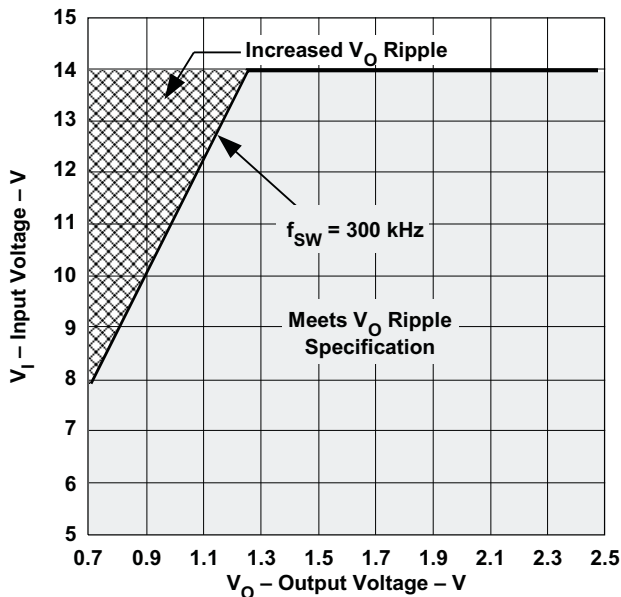
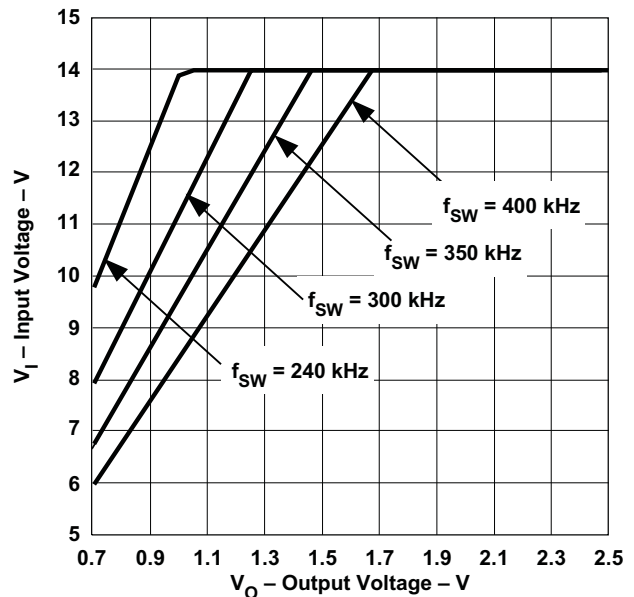

Figure 25.  $V_O$  Ripple Regions at 300 kHz
Figure 26.  $V_O$  Ripple Regions
Synchronizing to a higher frequency and operating with a low duty cycle may impact output voltage ripple. When operating at 300 kHz, Figure 25 shows the operating region where the output voltage ripple meets the electrical specifications and the operating region where the output voltage ripple may increase. Figure 26 shows the operating regions for several switching frequencies. For example, a module operating at 400 kHz and an output voltage of 1.2 V, the maximum input voltage that meets the output voltage ripple specification is 10 V. Exceeding 10 V may cause an increase in output voltage ripple. As shown in Figure 26, operating below 6 V allows operation down to the minimum output voltage over the entire synchronization frequency range without affecting the output voltage ripple. See the ELECTRICAL CHARACTERISTICS table for the synchronization frequency range limits.
- A. For Figure 25, operation above a given curve may cause the output voltage ripple to increase (typically  $2\times$ ).
- B. For Figure 25, when operating at the nominal switching frequency refer to the 300 kHz plot.
- Changed made Figure 25 viewable ..... 27
- Changed made Figure 26 viewable ..... 27